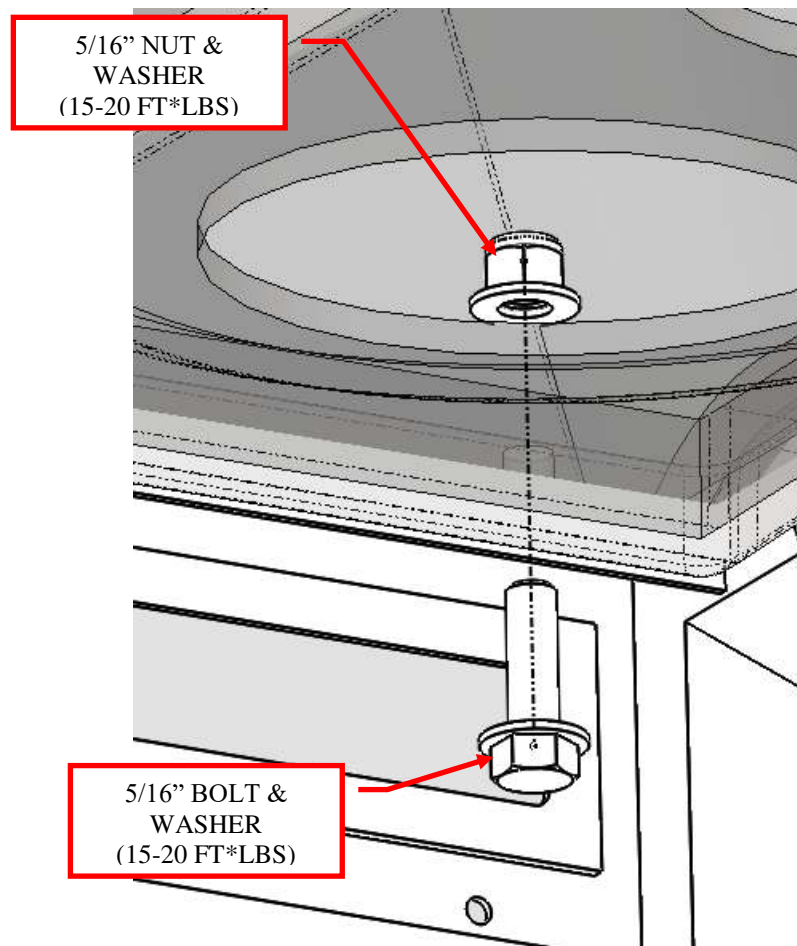

Figure 7: Install the hardware in the top.
6. Bolt the top to the cage using the supplied 5/16" hardware. Make sure and use the nylock nut and washer inside the top and use a bolt and washer outside. Torque to 15 to 20 ft.*lbs. See Figure 7.